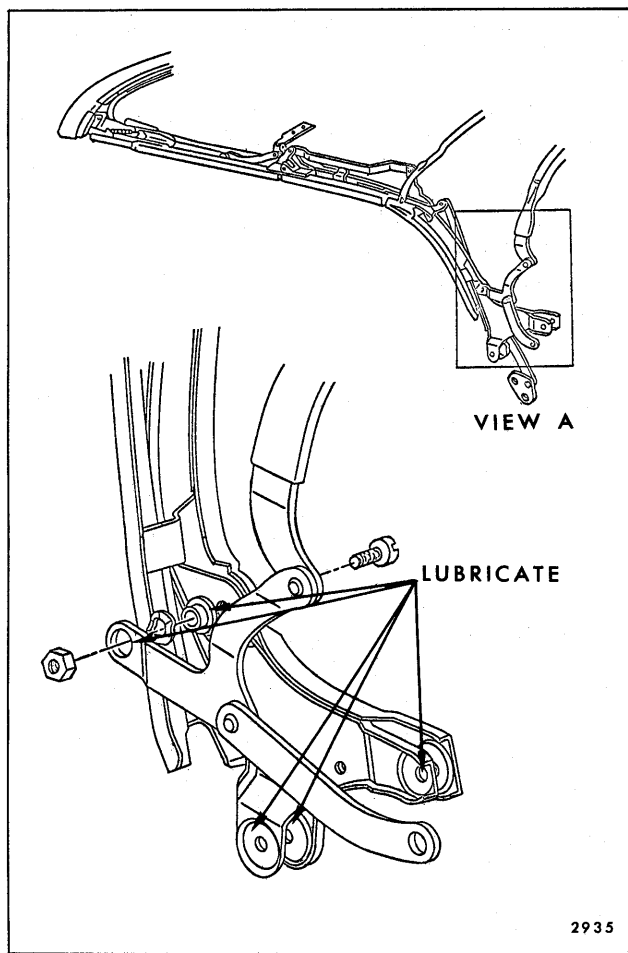
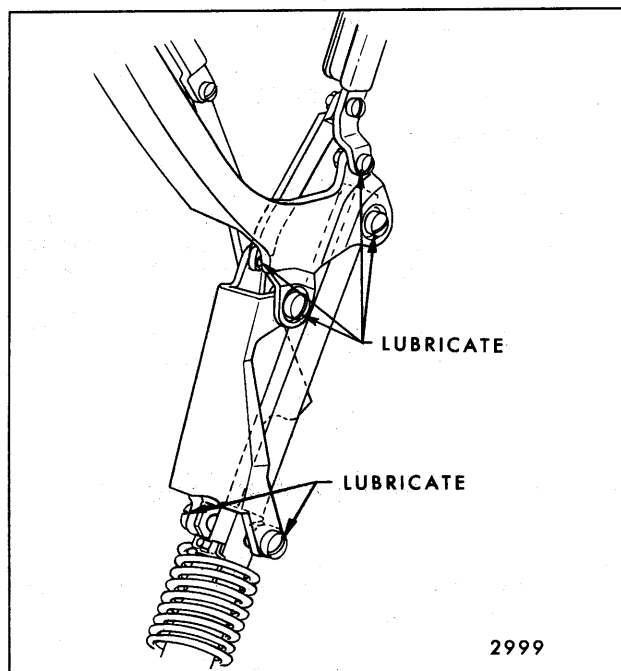
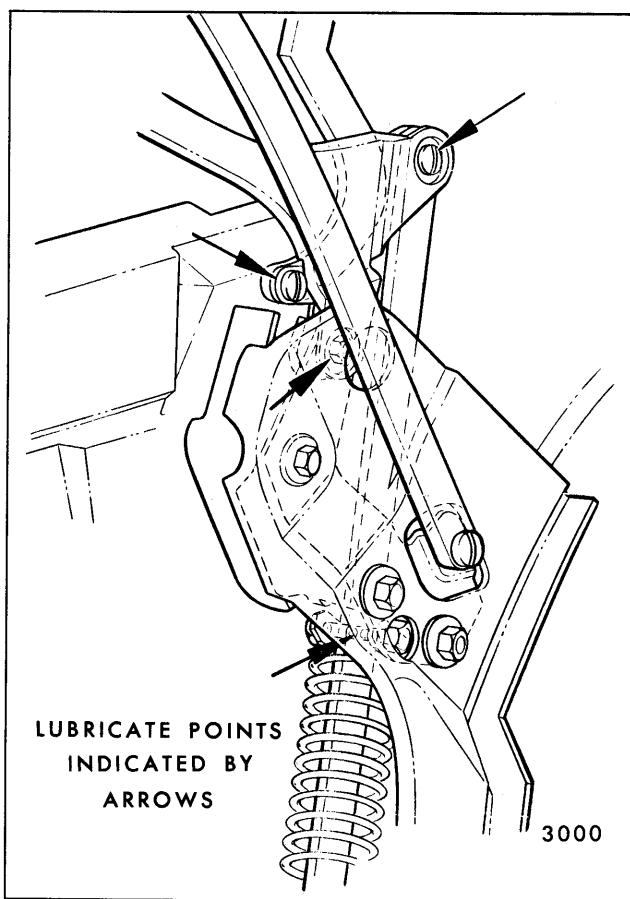

Fig. 2-13—Convertible Top Hinge - "B" Body Styles
Fig. 2-14—Convertible Top Hinge - "A" Body Styles
Fig. 2-15—Convertible Top Hinge - "F" Body Styles
2. The friction surfaces lubricated should include all washers, bushings, and other contact surfaces at the points indicated by the arrows (Fig. 2-13, Fig. 2-14, and Fig. 2-15).